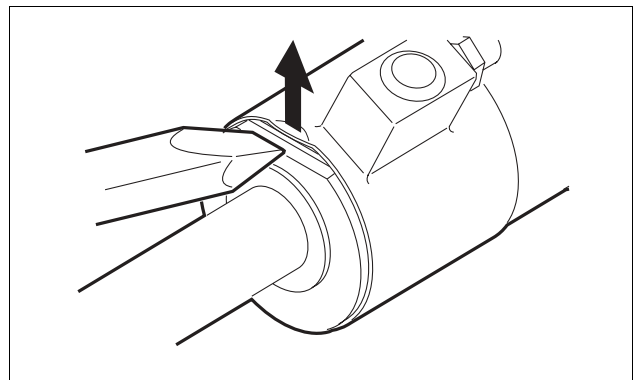

Fig. 25 Loosen the lock in the gland
6. Loosen the lock in the gland. *See Fig. 25.*